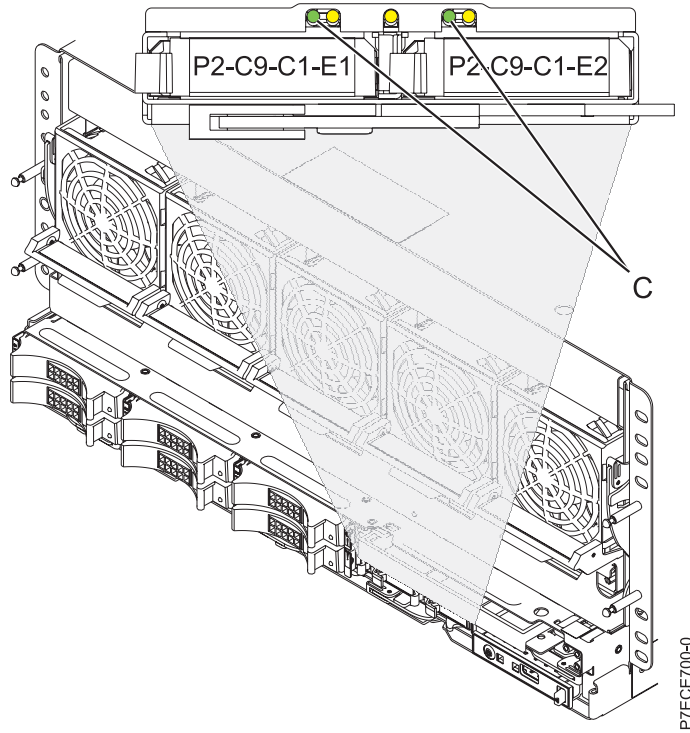

Figure 2. Cache battery LEDs
Attention: Do not remove the 175 MB Cache RAID – Dual IOA Enablement card if the LED (C) is flashing as shown in Figure 2, because this indicates that cache data exists.
16. Pull up slightly on the lever (A) and rotate it out to the right as shown in the following figure.
3. With the lever (A) in the extended position, slide the 175 MB Cache RAID – Dual IOA Enablement card into the slot as shown in Figure 2.